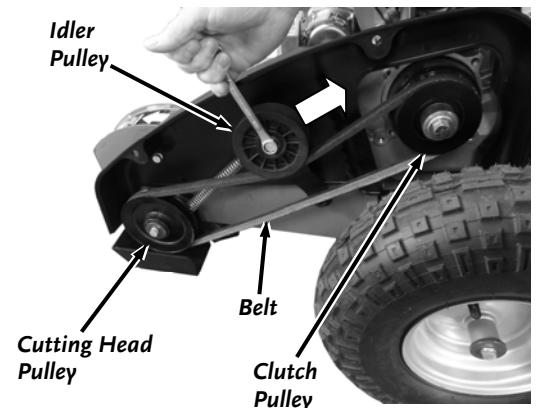

Figure 35
2. You should wear Gloves as you position a 9/16" Wrench onto the Idler Pulley Bolt and in line with the Pulley Bracket (**Figure 35**). Pull the Wrench to rotate the Belt Tensioner away from the Belt and then remove the Belt by rotating the Cutting Head to roll the Belt over the top of the Pulley.